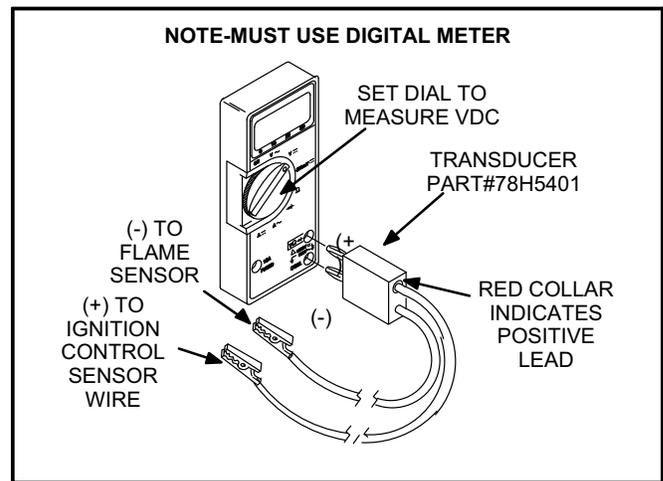

FIGURE 2
- 2- All other integrated controls: Measure the flame signal with a microamp meter. If necessary, a transducer (Part # 78H5401) may be used in conjunction with a standard digital VOM as shown in figure 2.